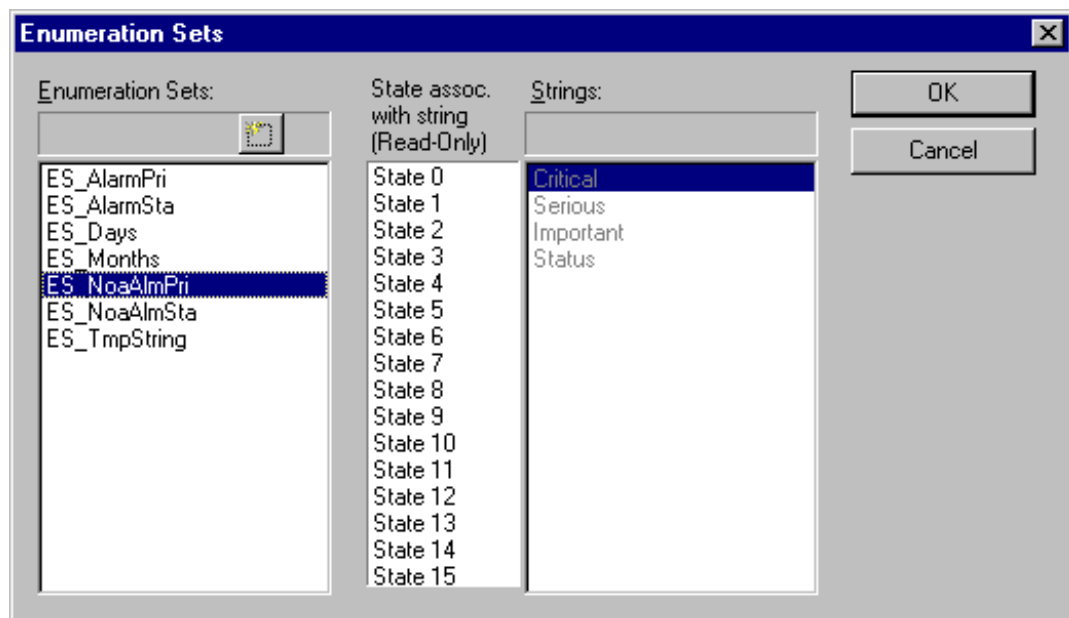

Figure 7-7: Enumerations Sets Screen
6. In the M-Display control, press the Enum. Sets... button. The Enumeration Sets screen appears (Figure 7-7).